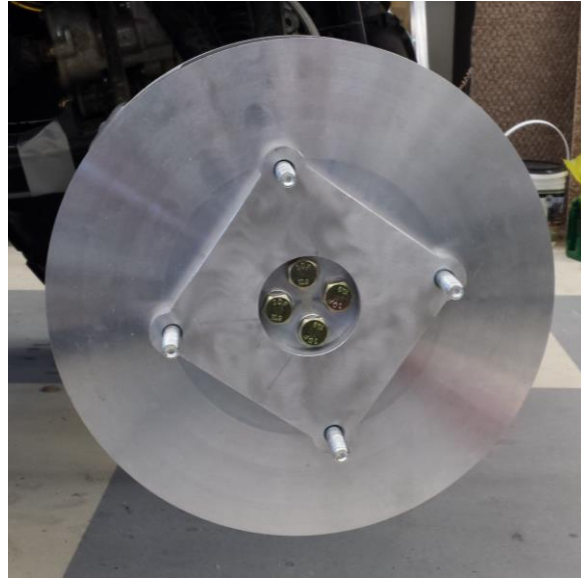

Figure 8 Spacer
10. (Figure 8) Place spacer on studs.